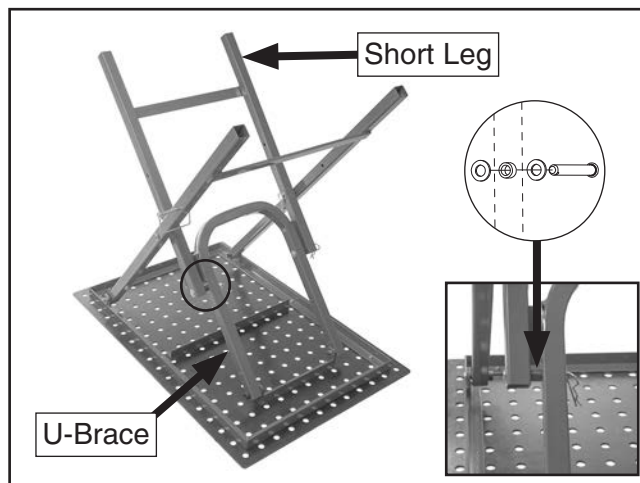

Figure 4. Short leg attached to U-brace.
4. Attach one side of short leg to U-brace with 10 x 85mm hinge pin, (2) 10mm flat washers, and shaft sleeve (see **Figure 4**).